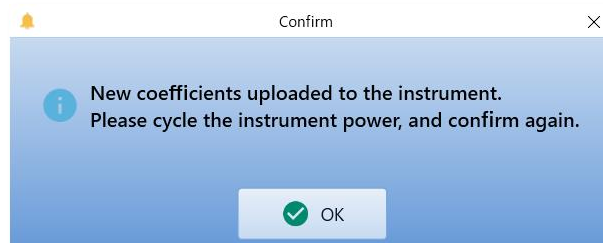

Figure 6.54 Upload completion message
- (5) Once coefficients were uploaded to the instrument properly, it opens confirmation message. (Figure 6.54)